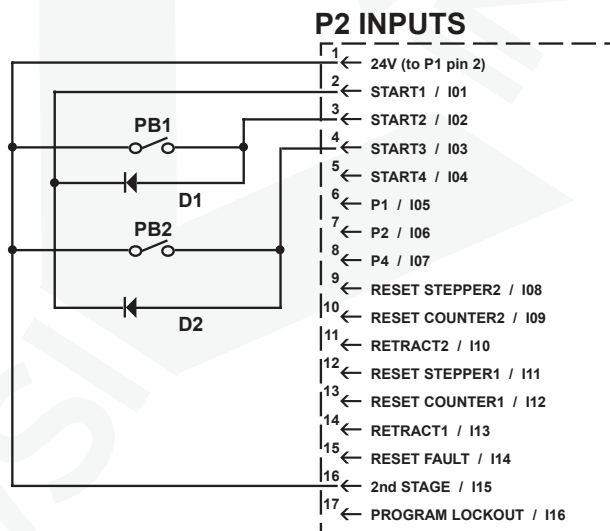

Figure 9-3. Initiation switches connection
1. Connect the initiation switches PB1 and PB2 to connector P2 as shown in Figure 9-3.
2. Connect diodes to P2 as shown in Figure 9-3.